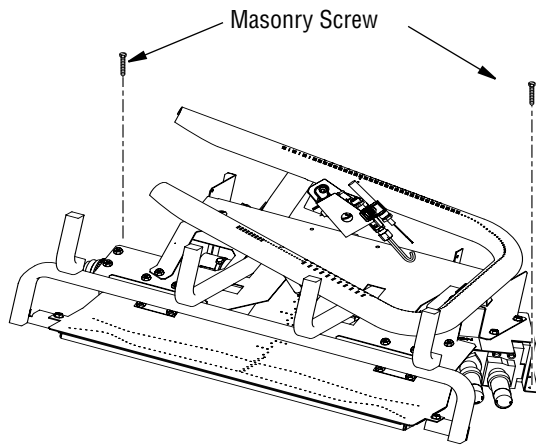

Figure 10 - Attaching Base to Fireplace Floor (Model Shown May Vary from Actual Model)
3. Mark screw locations through holes in front panel of base (*see Figure 10, Page 9*). If installing in a brick-bottom fireplace, mark screw locations in mortar joint of bricks.
6. Attach base, through holes in back side panels of base, to fireplace floor using masonry screws provided in hardware package (*see Figure 10, Page 9*).